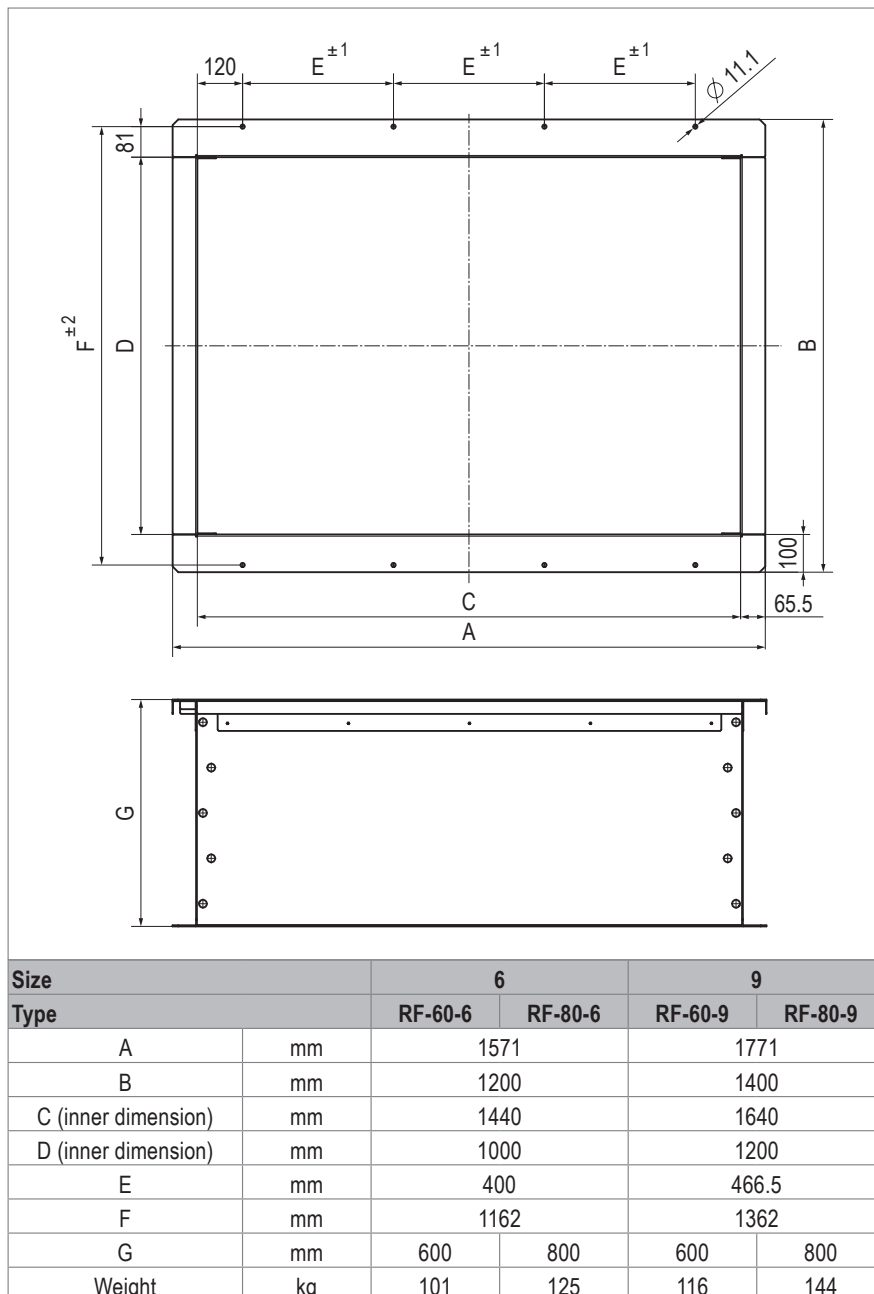

Fig. H8: Roof frame dimensions and weights
- The supporting surface must correspond to the specifications in Fig. H8 on page 109.